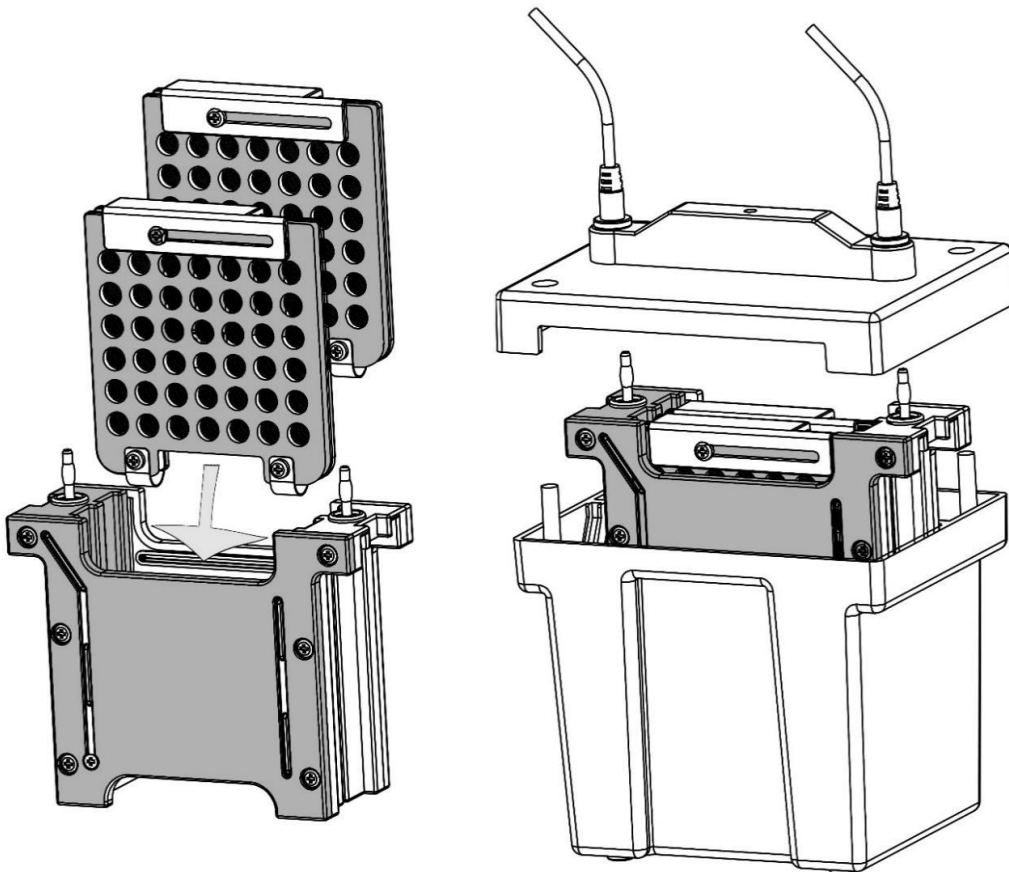

Figure 3. Place cassette into module
- 10) Place the cassette into the electrode module. The red side of the cassette face to the red side of the electrode module. Repeat for the other cassette if a 2nd blotting is needed, as shown in the Figure3.